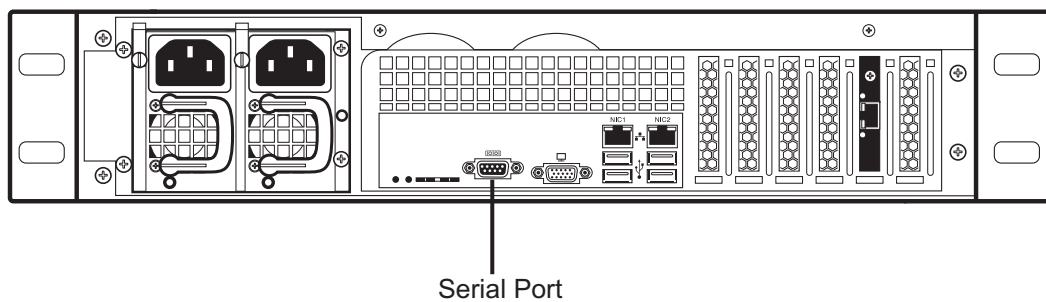

Figure 9.1 7800-CTRL Serial Port Connection
1. Connect a male-male DB9 cross-connect cable between the DB9 serial port of your computer and the DB9 serial port of the 7800-CTRL. See figure 9.1 on page 60.